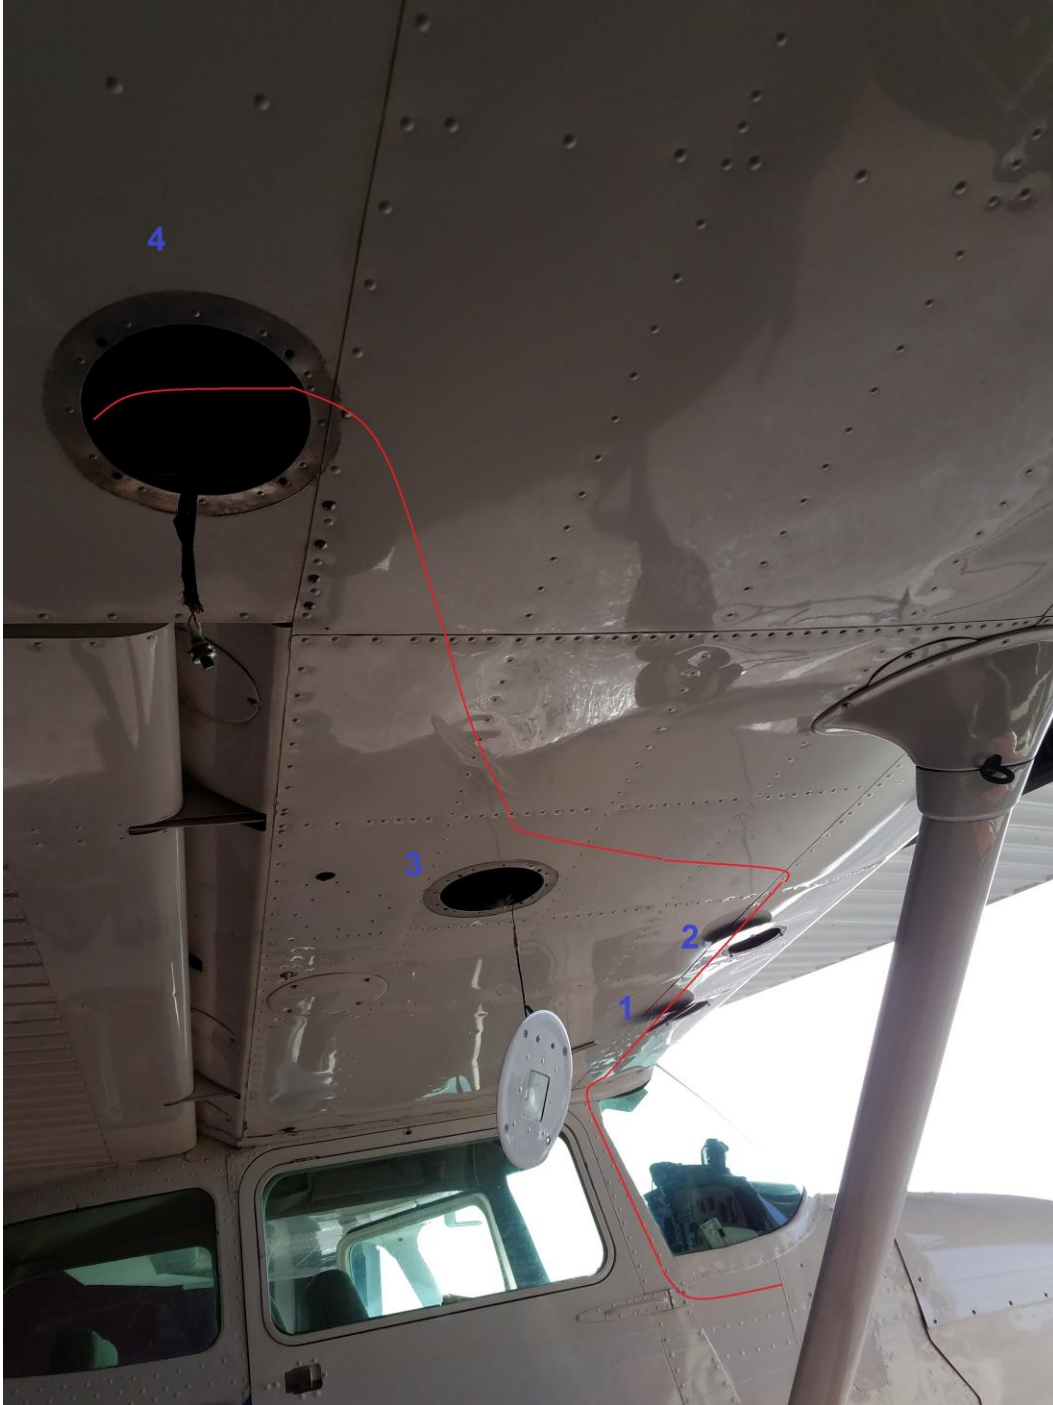

Figure 4-11
- 12.1. Continue following the existing wiring harness through the grommets in the leading edge ribs past the second inspection hole. The red line in Figure 4-11 shows the pathway the harness should take.